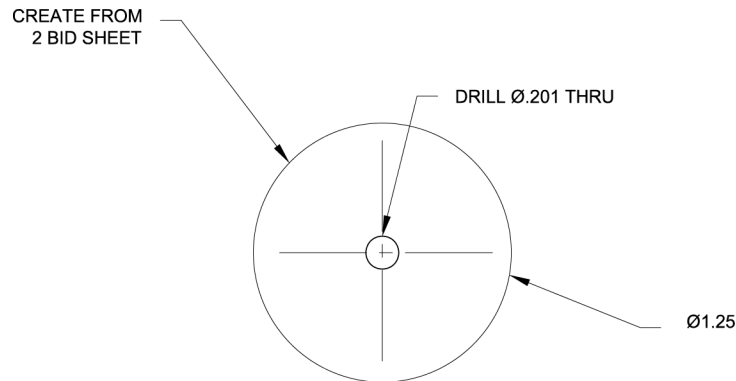

Figure A-14 2 BID Sheet Disk
9. Fabricate two disks from 2 BID sheet to the dimensions shown in Figure A-14.